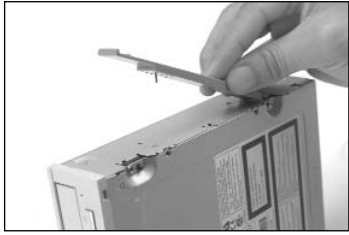
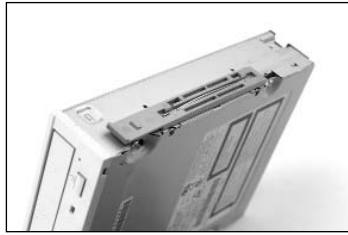

Figure 1.
Figure 2.
2. Remove the drive rail from the metal plate by gently lifting the release tab (left end) with one finger and sliding the drive rail to the left. Attach the drive rail to the right side of the 5.25" device by carefully aligning the drive rail as illustrated in Figure 1 and pressing along the spring wire from back to front to seat it as in Figure 2. Make sure the release tab is facing towards the front plate.